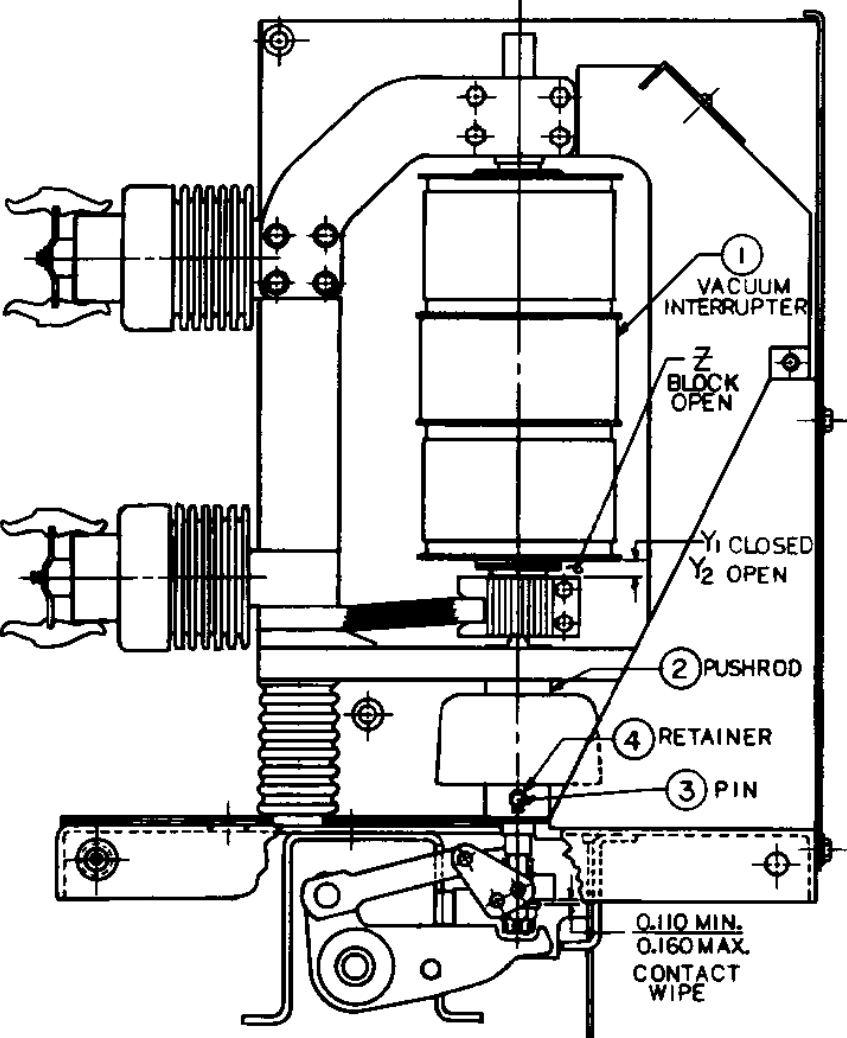

Fig. 5 — Contact Pressure
3. Contact wipe (contact pressure) (See Fig. 5). The contact air gap and contact wipe is set at the factory by setting the vertical position of the interrupter (1) and the vertical position of the pushrod (2). The parts should not be repositioned in the field unless a pushrod change is required to correct contact sequence as described elsewhere. Contact erosion and wear in mechanical parts will cause a reduction in contact wipe over the life of the breaker. For a check on contact erosion, see section "Erosion Indicator Check".
4. Contact Air Gap (See Fig. 5). The contact air gap is set at the factory at the nominal dimension of .35. This value will normally increase as the contacts erode. A check of the contact air gap checks that the breaker does open fully and that the gap is sufficient to withstand the applied voltage. The measurement is made as follows for the three poles.
5. Contact sequence (See Fig. 5). All three poles should touch within 2 millisecond at normal closing speeds. An oscilloscope, oscillograph or other timing method may be used to establish the 2 millisecond timing.